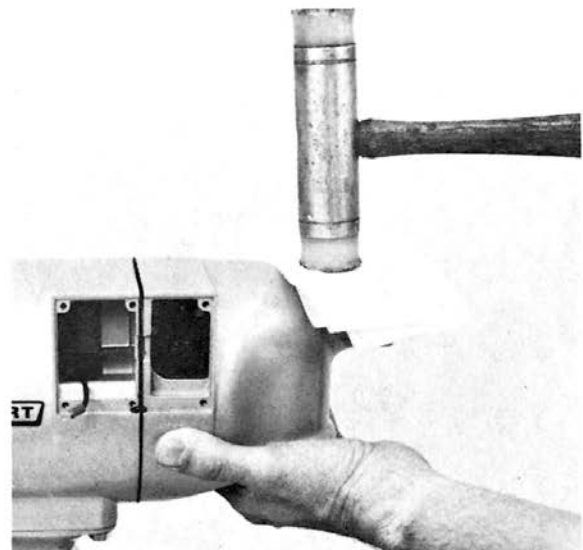

Fig. 3-8
- I. Remove the transmission case (Fig. 3-8). With protective padding on the hub, tap the attachment hub with a plastic hammer to separate the transmission case from the field ring.